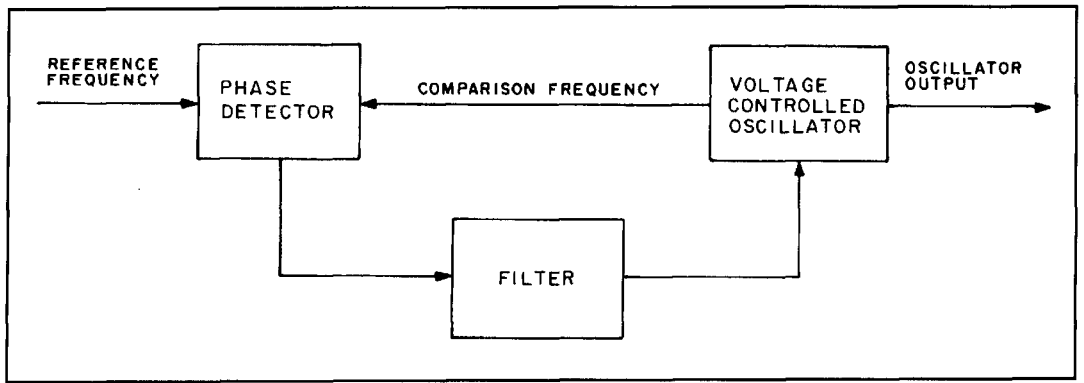

Figure 1. A block diagram of a basic phase locked loop (PLL).
Figure 1. These devices from IVEX's WinDraft CMOS part library will do the job, but weren't what I expected. (A) shows a CMOS 4001 quad NOR gate and (B) is a 4060 oscillator counter IC. More conventional renditions may be created easily using the WinDraft parts editor.
The phase locked loop, which is at the heart of most of today's synthesizers, is basically a form of servo system. It consists of a number of basic building blocks, as shown in **Figure 1**.